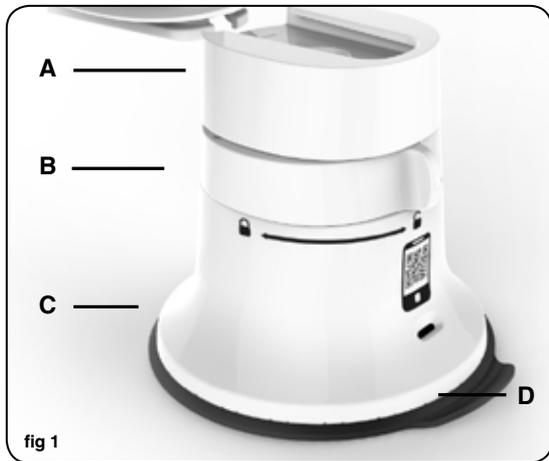

fig 1
1. Ensure the suction foot's ring is on the unlock position  (fig. 1).
2. Place the suction foot (C) on a clean and stable countertop. Slide the top part into the suction foot's groove (A) (fig. 1).